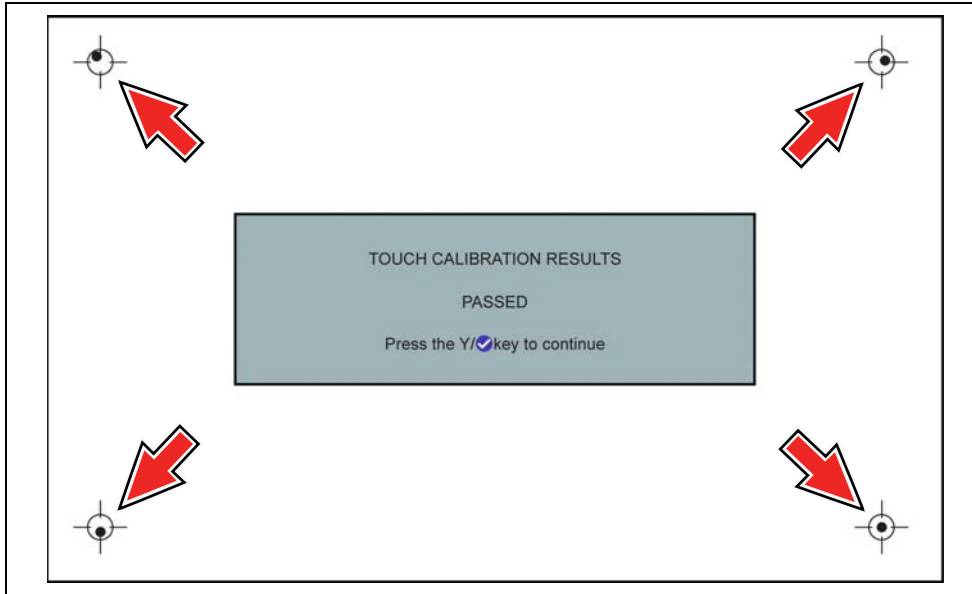

Figure 14-7 Touch screen calibration - Passed
- If the calibration is successful, the “Touch Calibration Results - Passed” screen is displayed (Figure 14-7). Press the **Y** button to complete the process and return to the Display menu.
- The results screen (Figure 14-7) shows the entered calibration of each indicator. Ideal calibration would be to select each indicator exactly in the center, however selection inside the displayed circle is acceptable. If selecting the center is difficult using your finger, use a touch screen stylus (not included).